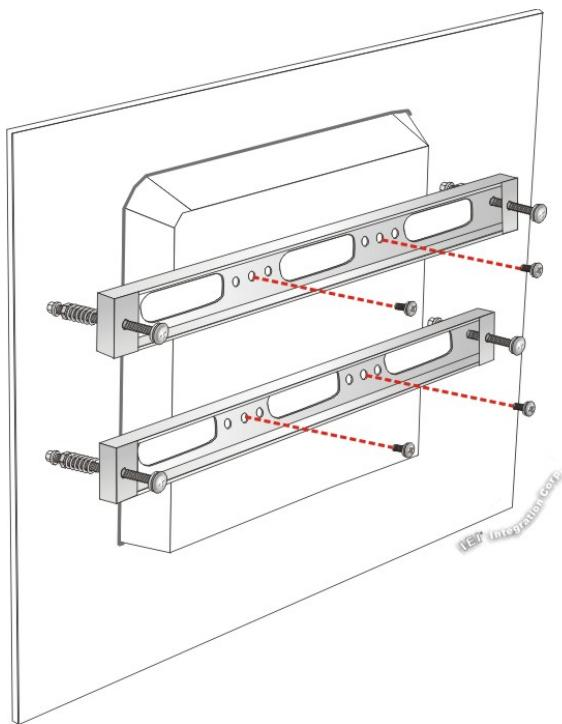

Figure 3-21: Securing Panel Mounting Brackets
Step 7: Secure the two panel mounting brackets to the rear of the panel PC by inserting the four retention screws into the VESA mounting holes and tightening them (Figure 3-21).